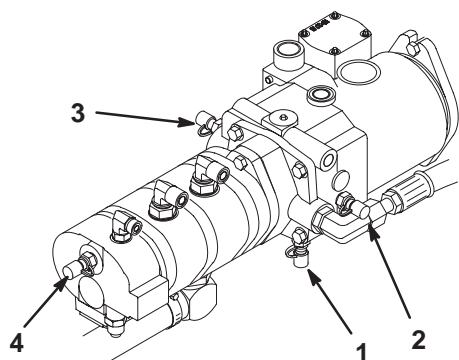

Figure 61
4. Test Port “D” is located on the bottom of the hydrostatic transmission (Fig. 61) and is used to measure the charge pressure of the transmission.
6. Test Port “F” is used to measure traction reverse pressure (Fig. 61).
7. Test Port “G” is used to measure steering circuit pressure (Fig. 61).